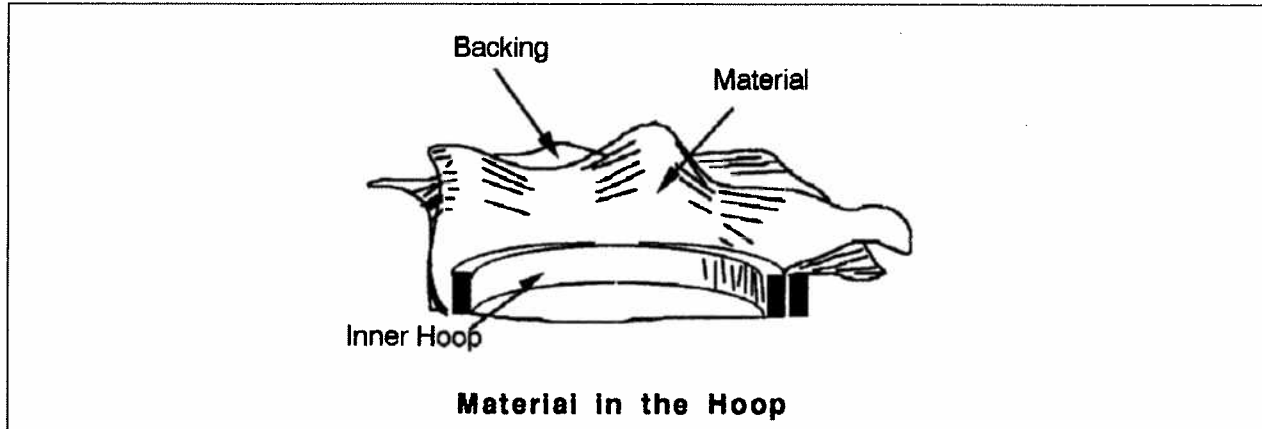

Figure 4-13
6. Press the inner hoop into the outer hoop with the fabric and backing between them as shown in Figure 4-13. Pull the outside edges of the material inward, toward the center of the hoop. This tightens the material inside the hoop without popping the hoop apart.